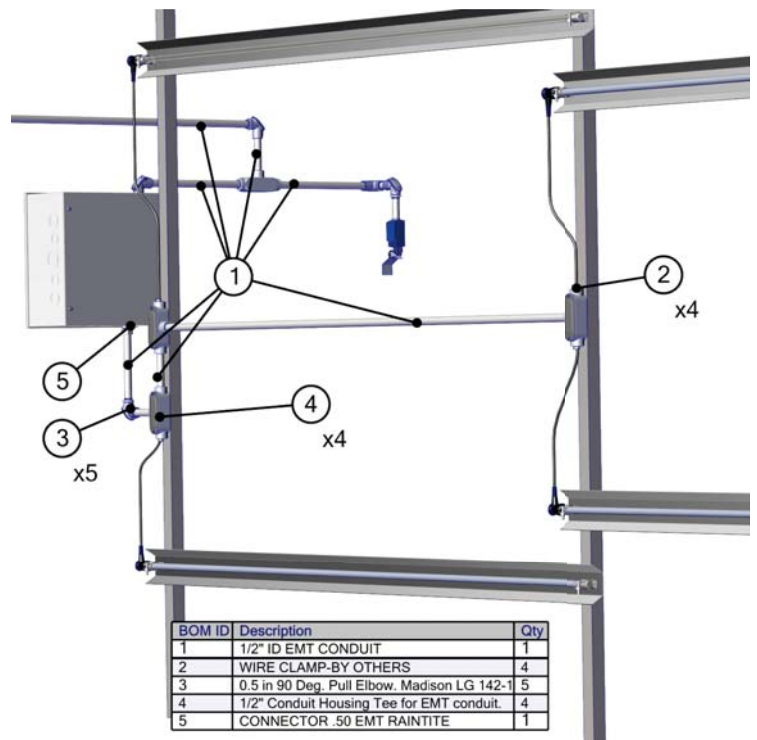

Figure 11: Recommended conduit and junctions (by others)
- EMT Conduit-1/2" ID (Figure 11 on page 4)
(Figure 11) provides a basic configuration example including the recommended strain reliefs and junction boxes.